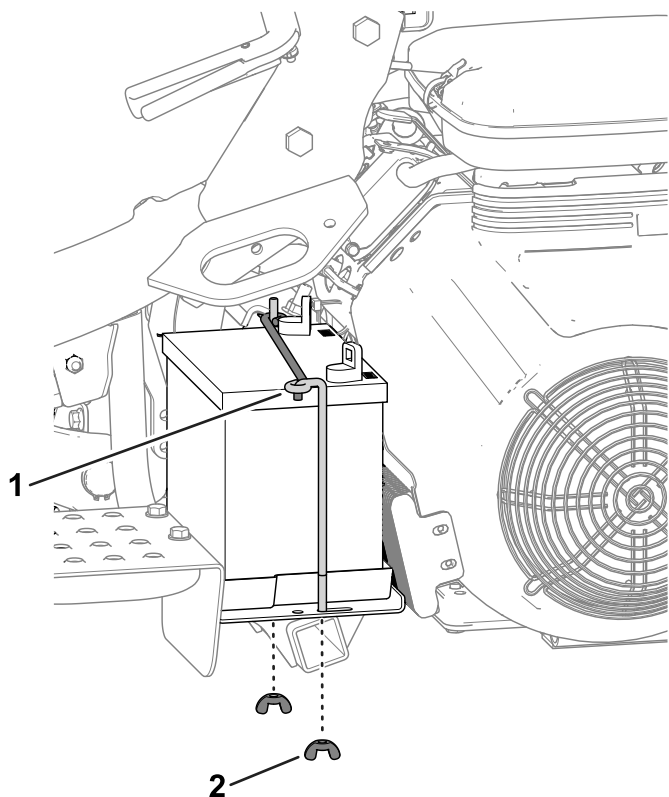

Figure 40
2. Remove the wing nuts and rods that secure the battery to the platform (Figure 40) and lift out the battery.
5. Place the battery on the battery tray and secure it with the previously removed rods and fasteners (Figure 40).